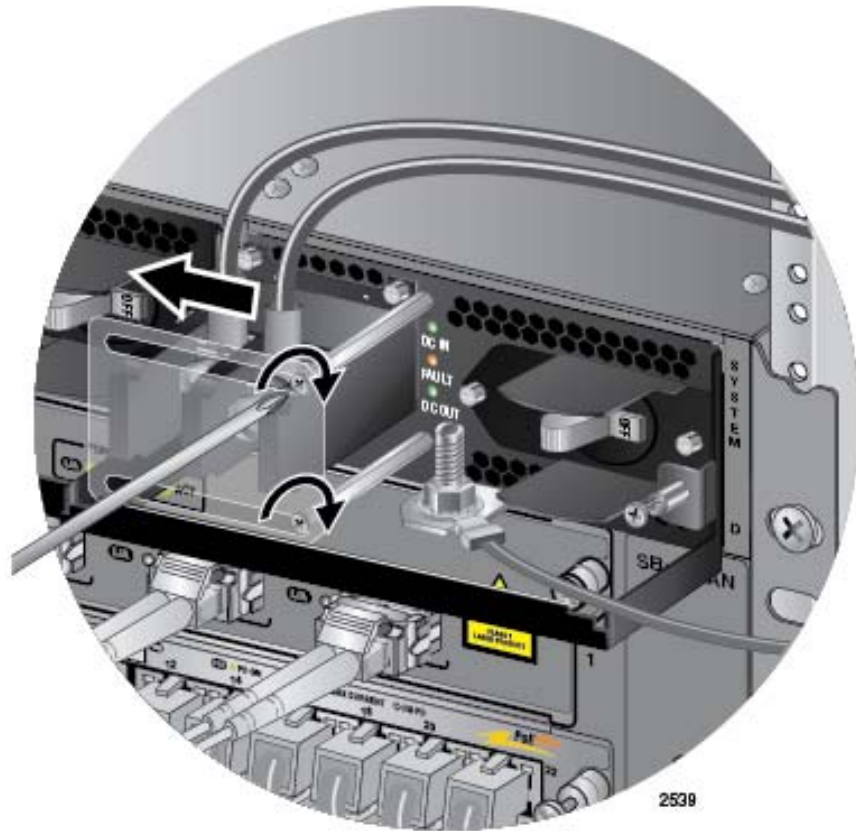

Figure 132. Closing the Plastic Cover over the Terminal Connectors
8. Slide the plastic cover to the left and lightly tighten the two screws with a #1 Phillips-head screwdriver to secure the cover. See Figure 132 on page 194. You might need to lift the locking handle slightly to access the bottom screw.
7. Slide the plastic cover to the left and lightly tighten the two screws with a #1 Phillips-head screwdriver to secure the cover. See Figure 132 on page 194. You might need to lift the locking handle slightly to access the bottom screw.